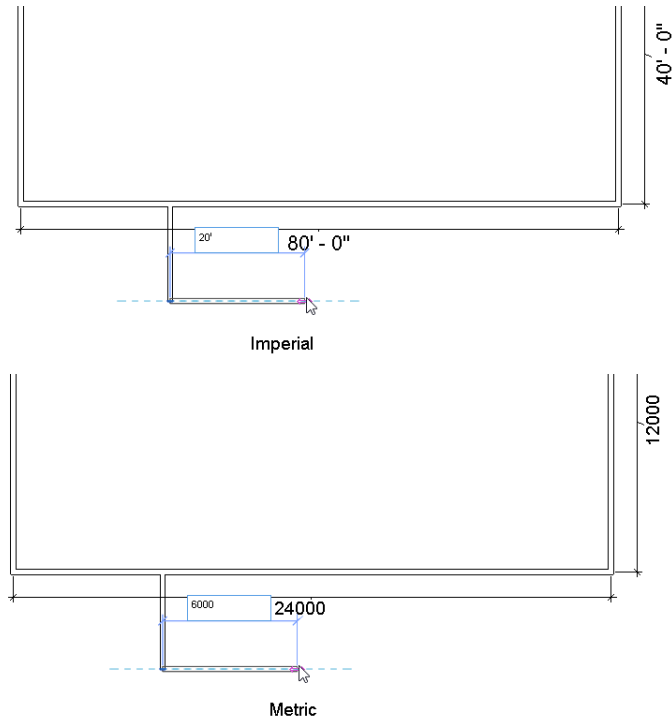

Figure 3-62 *Creating the second exterior wall segment*
- After drawing that line, the wall starts forming dynamically with one end attached to the specified point and the other end attached to the cursor. Move the cursor horizontally toward the right so that you see a dashed horizontal line inside the wall segment. Now, enter **20'0"** for Imperial or **6000 mm** for Metric as the value of the length; an edit box is displayed with the dimension you have entered, as shown in Figure 3-62.